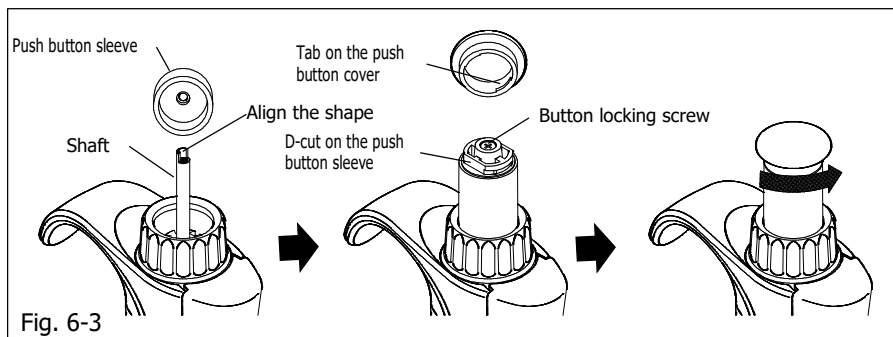

Fig. 6-3
- 7) Pay attention to the mating surfaces and orientation, attach the push button sleeve to the shaft in the reverse order of removal, and tighten it with the button locking screw. (Fig. 6-3)
- 8) Align the tab on the push button cover with the D-cut on the push button sleeve, and secure it by turning it in the direction of the arrow. (Fig. 6-3)